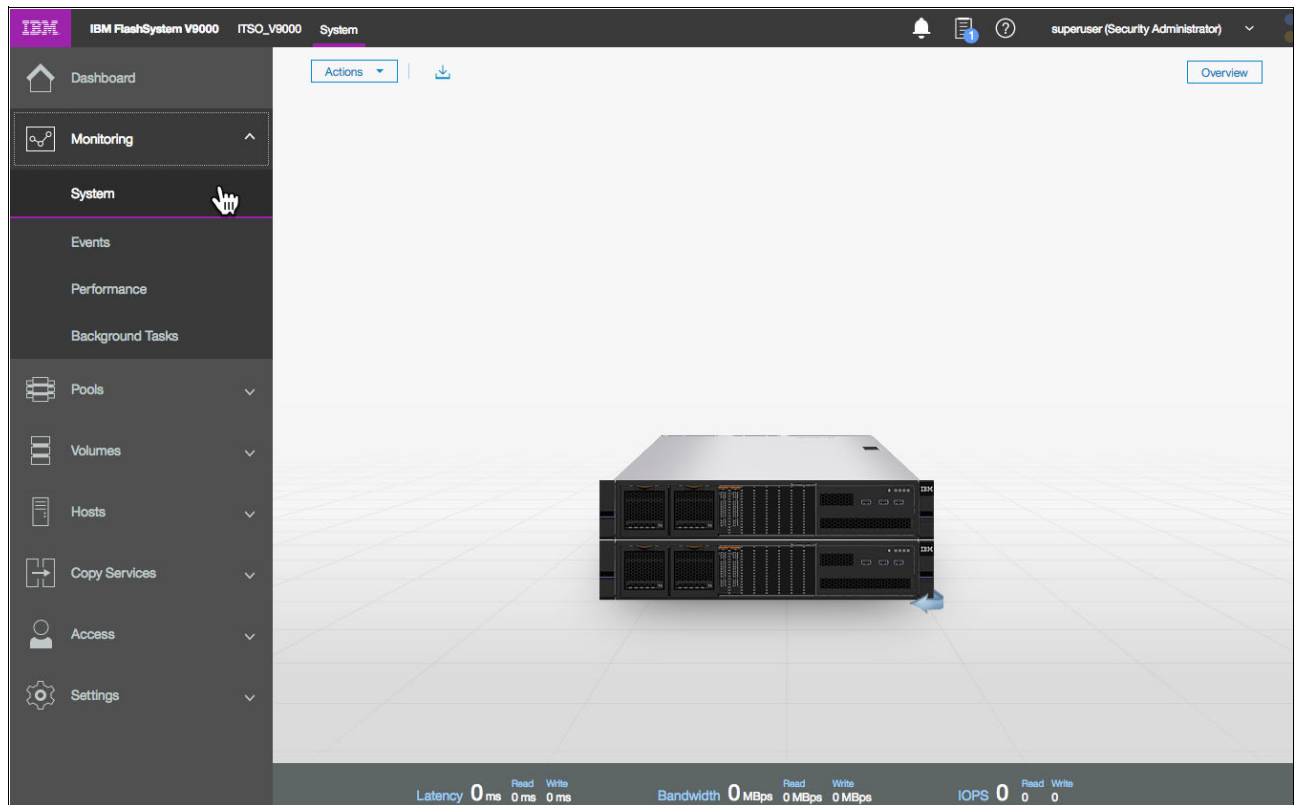
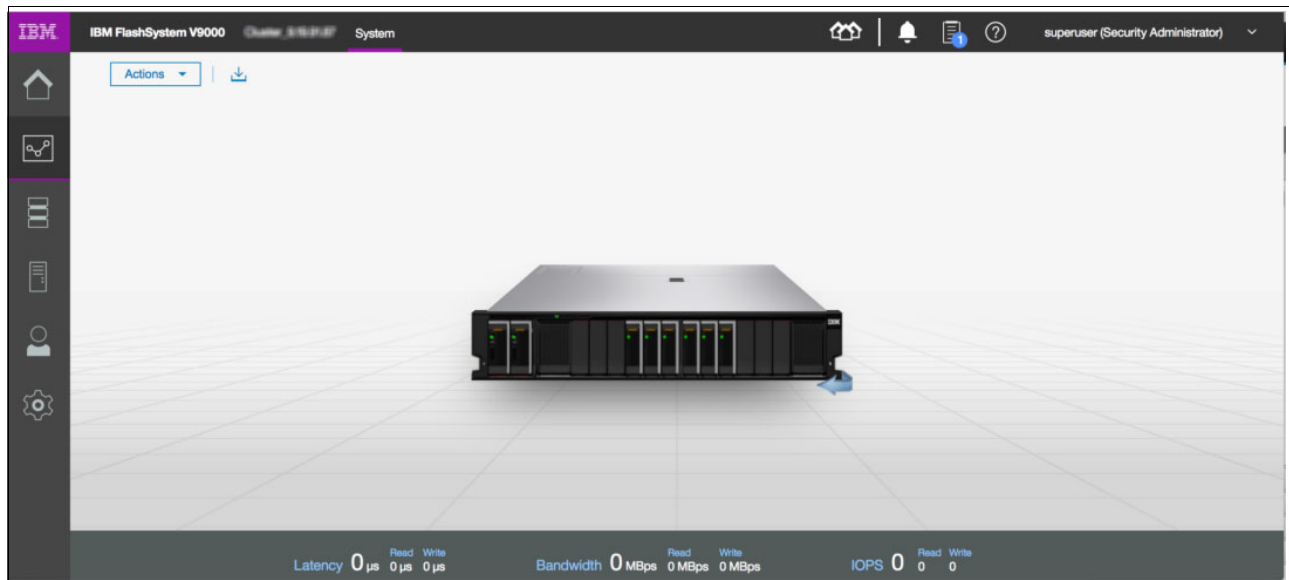

Figure 3-5 Single scalable building block showing the AC3 control enclosures
Figure 3-6 Single scalable building block showing the AE3 storage enclosure
Figure 3-5 shows a scalable building block before adding an extra IBM FlashSystem V9000 storage enclosure. Because the AE3 storage enclosure is now a virtualized enclosure, it does not show up on the AC3 GUI, and has its own GUI, as shown in Figure 3-6 on page 72.
Figure 3-6 shows a single scalable building block for the AE3 storage enclosure.
- ▶ Initialize the V9000 AE3 using the USB initialization process and start the AE3 in the IBM FlashSystemV9000 GUI as shown in Figure 3-6. For further information see chapter Chapter 4, “Installation and configuration” on page 83.